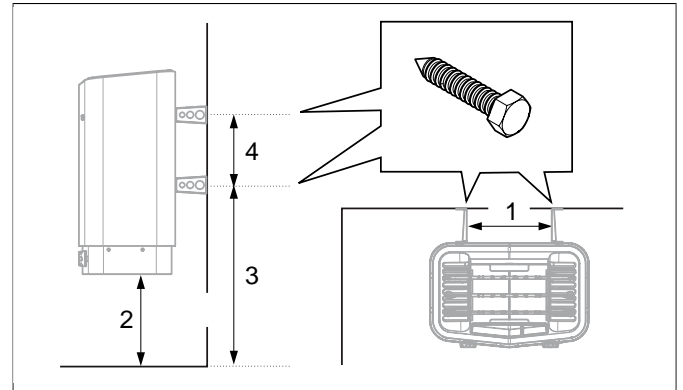

Figure 8: Dimensioning
6. Position the bracket screws according to the specified dimensioning see **Figure 8**, Page 4.